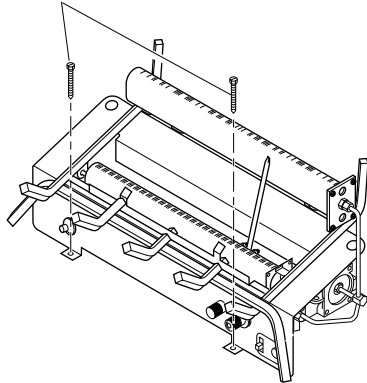

Figure 12 - Attaching Base Assembly to Fireplace Floor
7. Mark screw locations through holes in front panel of base (see Figure 12, page 11). If installing in a brick-bottom fireplace, mark screw locations in mortar joint of bricks.